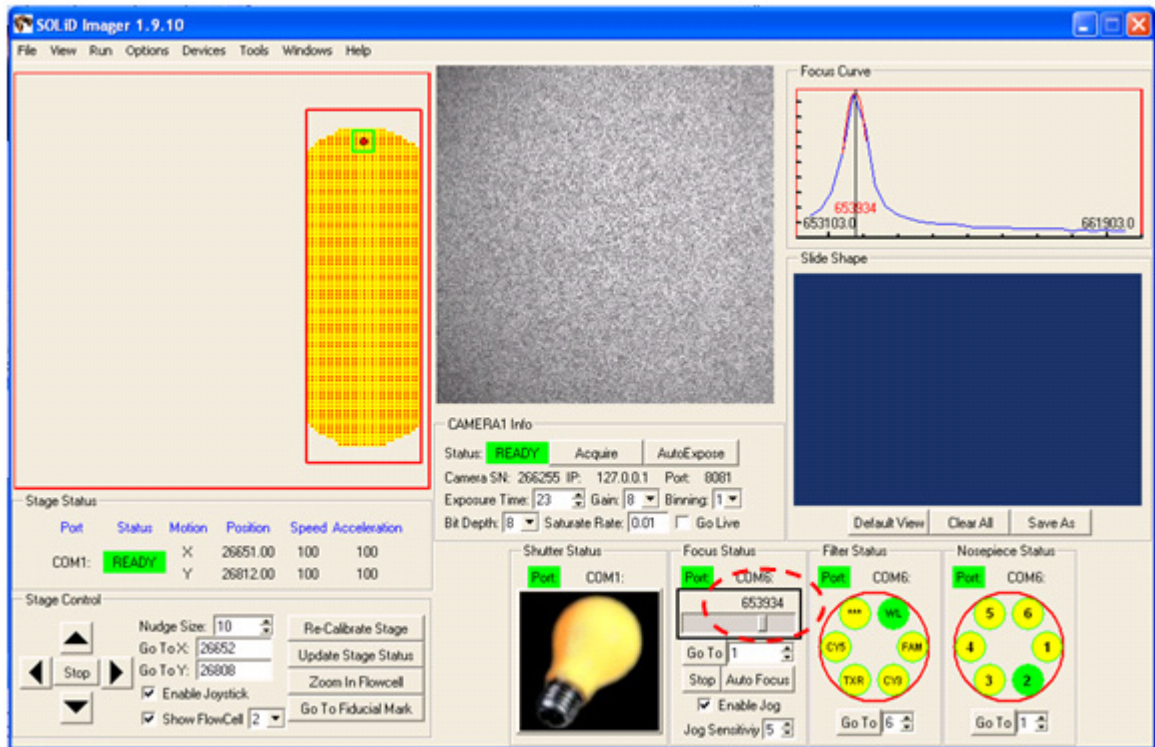

Figure 87 Record the nominal Z distance.
1. When the image is in focus, record the value of the Z distance in the Focus Status pane. This is the *nominal Z distance* for this flowcell. Be sure to record the correct Z distance value, not the value in the GoTo window (see Figure 87).